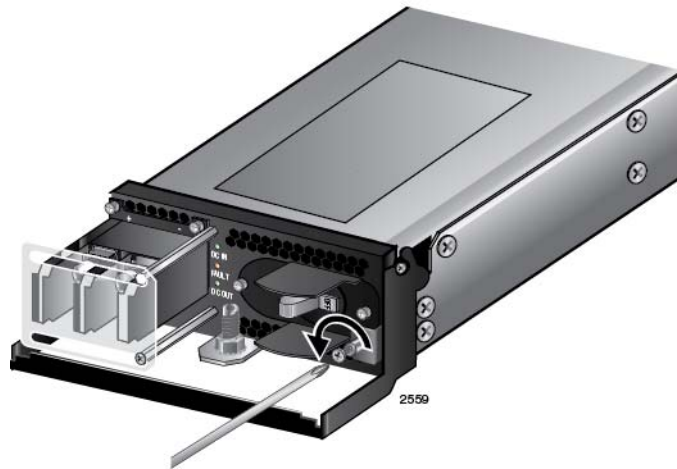

Figure 65. Loosening the Handle locking Screw on the AT-SBxPWRPOE1 DC System Power Supply
4. With a #2 Phillips-head screwdriver, loosen the handle locking screw on the power supply, as shown in Figure 65 on page 131.